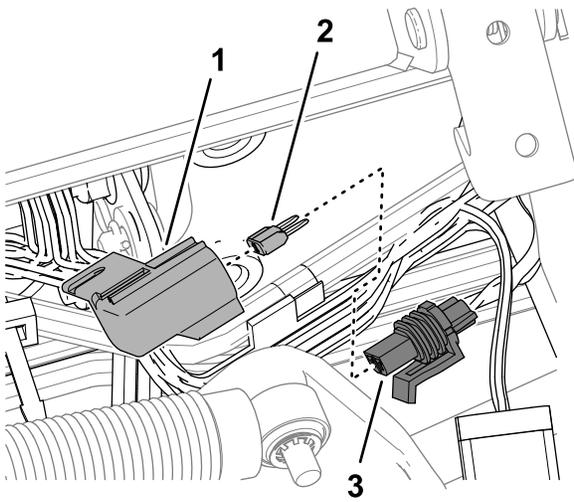

Figure 105
3. Remove the cap from the in-line fuse holder labeled 10 A FUSE TELEMATIC PWR (Figure 105).